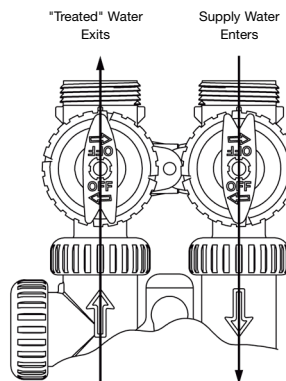

Figure 16:
- 2. Bypass Position:** The inlet and outlet handles point to the center of the bypass, the control valve is isolated from the water pressure contained in the plumbing system. Untreated water is supplied to the plumbing system. (See Figure 16)